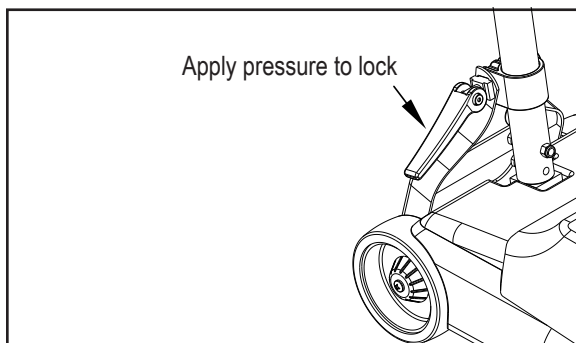

Figure 9
2. Lock the handle in the best position for operation. See Figure 9.